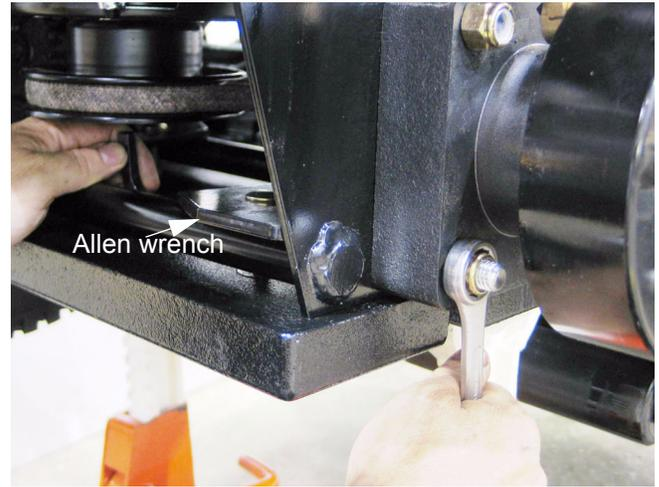

Figure 26.8
26.8. Unbolt the wheel motor from the frame using a 3/8" allen wrench and a 3/4" wrench, and carefully remove it. See Figure 26.8.